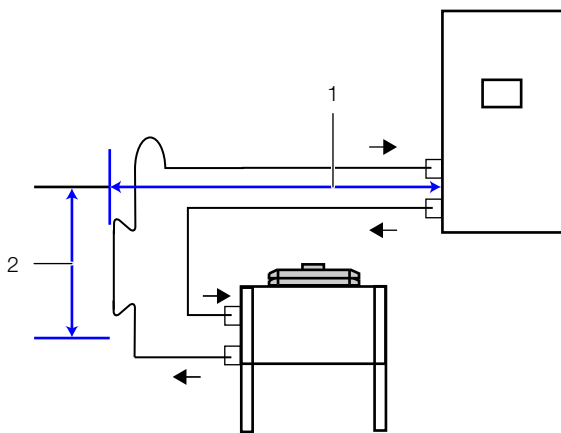
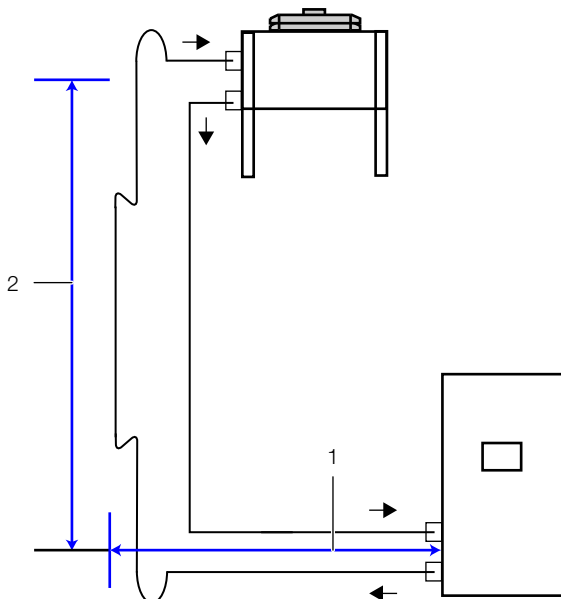

Fig. 8: Relative positioning condenser below the LCP DX
Fig. 9: Relative positioning above the LCP DX
Sum total of horizontal (fig. 8, item 1) and vertical spacing (fig. 8, item 2 or fig. 9, item 2) between the LCP DX and the condenser	Max. 45 m equivalent length
Condenser above LCP DX (fig. 9, item 2)	max. 20 m
Condenser below LCP DX (fig. 8, item 2)	max. 3 m